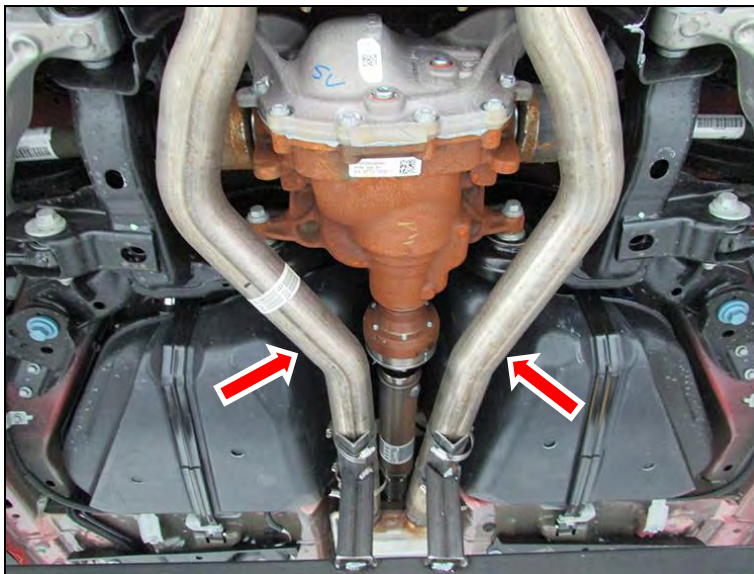

Figure 1
3. From under the vehicle, refer to Figure 1 and locate this area of the OE mid pipe. This section of the OE mid pipe is about to the end of the rear of the gas tank.